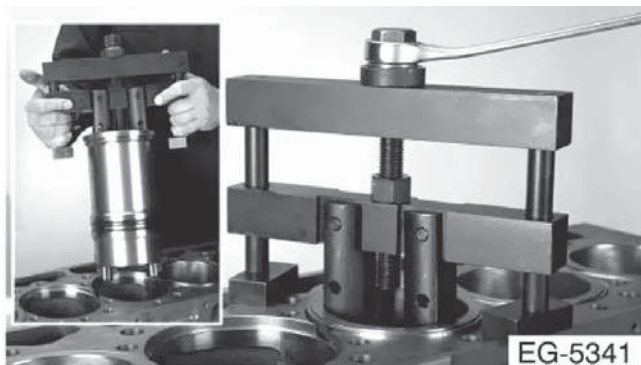

Figure 11-2 Removing a cylinder sleeve. (Courtesy of Navistar)
37. Remove the cylinder liners using a suitable puller as shown in **Figure 11-2**. Wet liners are sealed by O-rings and do not usually require a great amount of force to separate them from the block. Dry liners and combination wet/dry liners may require considerable force and hydraulic and air-over-hydraulic pullers along with adapter plates are usually required.